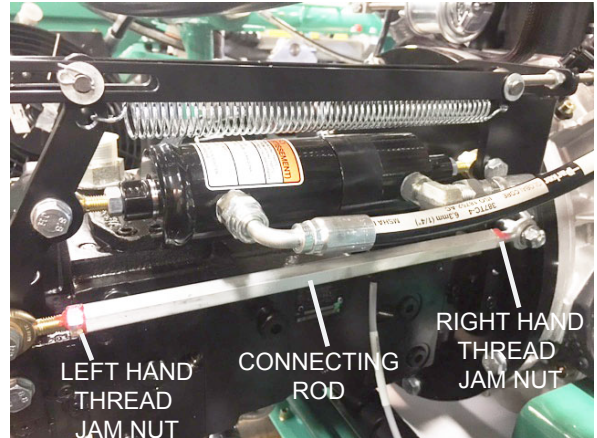

Figure 34. Right Side Trowel Speed Adjustment
3. Adjust trowel arm connecting rod on the pump actuating lever and tighten jam nuts (Figure 34).